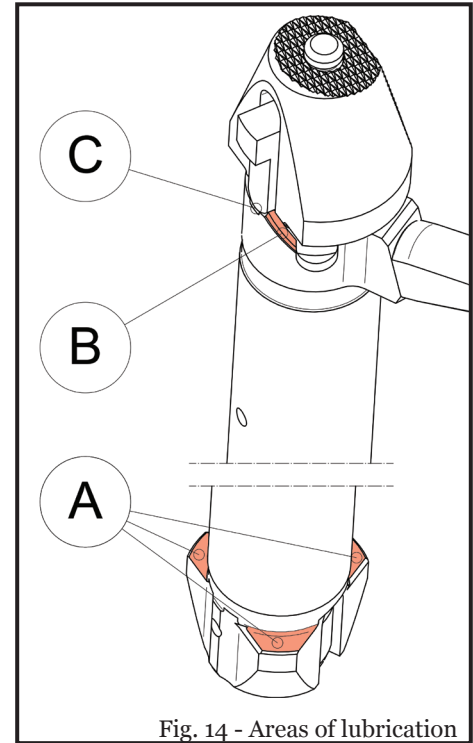

Fig. 14 - Areas of lubrication
- Make sure that locking lug surfaces (A), camming slope (B) and head of the cocking piece (C) are all lightly greased (Fig. 14).